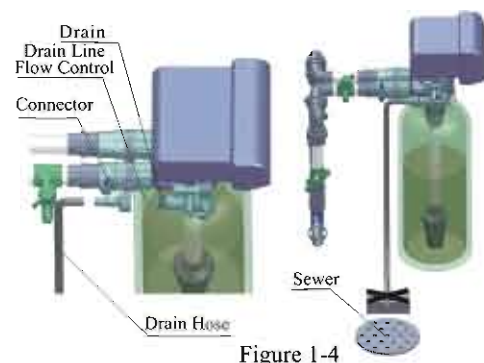

Figure 1-4
- If the valve belongs to time clock type, there are no step ② and ③
⑤Install drain pipeline
- As the Figure 1-4 shows, slide the drain hose connector into drain outlet.
- Locate the drain hose well as the Figure1-4 show.
- Be sure not connect drain with sewer, and leave a certain space between them, avoid wastewater be absorbing to the water treatment equipment, such as showed in the Figure1-4.
⑥Connect brine tube